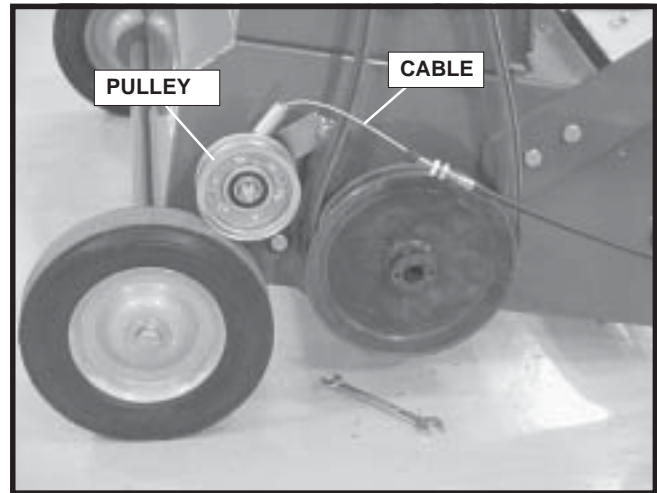

FIGURE 4
- Remove belt guard. Remove cable by removing the small idler pulley. See Figure 4. Attach new cable and replace pulley. Save the old cable for use when the bagger is not used.